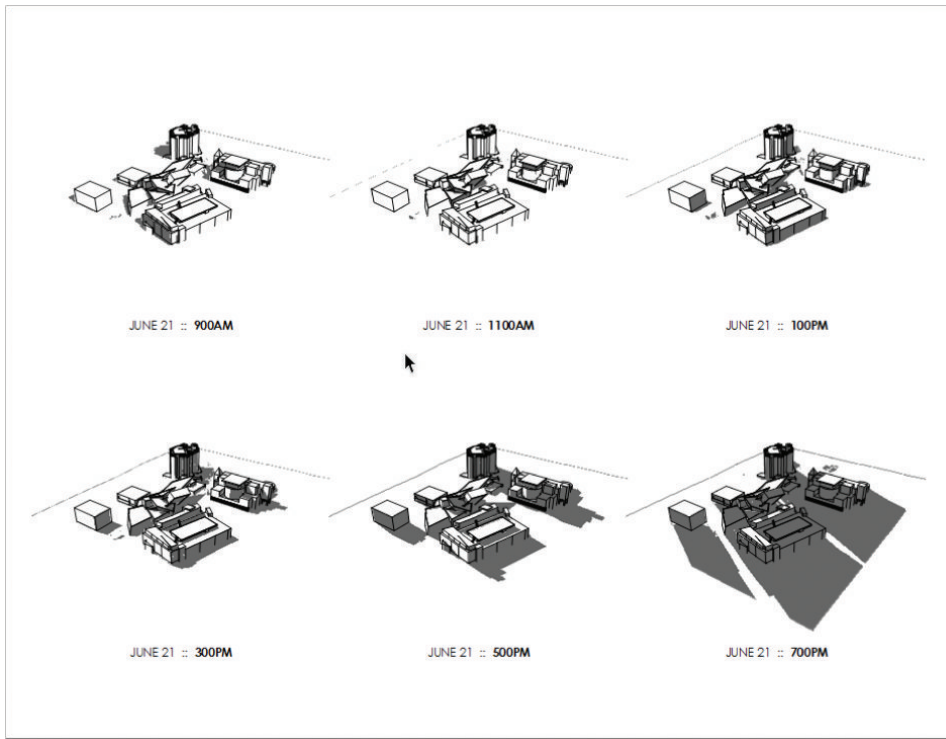

Figure 16.26 The final shadow study presentation in LayOut
9. Below each image, add text that indicates the time of day (Figure 16.26).